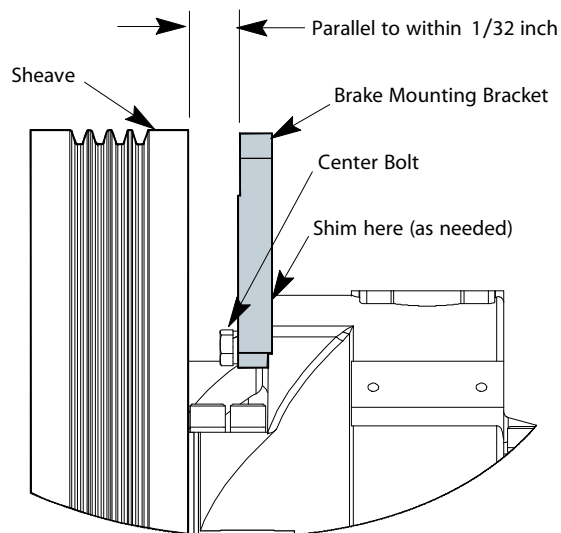

Figure 1 - Brake Shoe and Sheave Alignment
4. Verify that the brake mounting bracket (installed at the factory) is parallel to the drive sheave to within 1/32 inch. Shim as required. See Figure 1.